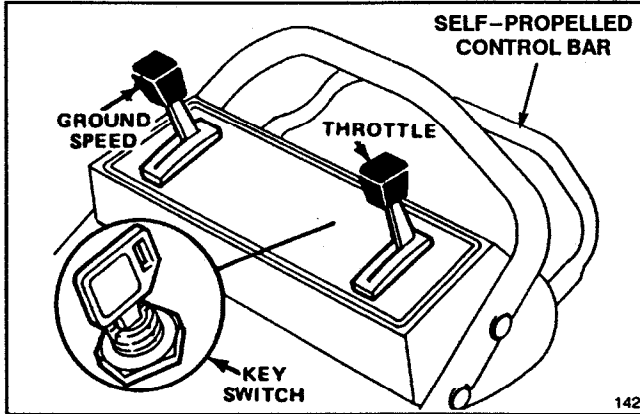
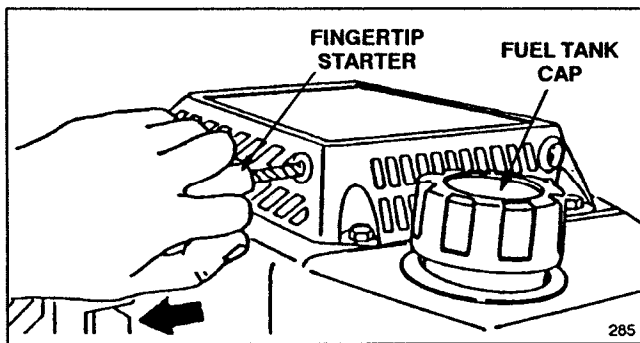

Figure 6
Figure 7
1. Clean around fuel tank cap (Fig. 7) and remove cap from tank. Do not fill tank full. Using unleaded gasoline, fill fuel tank to within 1/4" to 1/2" (6 to 13 mm) from top of tank, not into the filler neck. This space is for expansion of fuel.
1. **CONTROLS**—Key switch (electric start model only), ground speed control, throttle, and blade/self-propelled control bar are on upper handle (Fig. 6). Fingertip starter is on top of engine (Fig. 7).
- 4a. **KEY-ELECTRIC STARTING** (electric start model only)—Move throttle to **CHOKE**. Turn key to **START** and release when engine begins running. When engine starts, remove throttle from **CHOKE** and regulate engine speed between **FAST** and **SLOW**. If the battery's charge is too weak to start the engine, the engine can be started with the fingertip starter (Fig. 7).
5. **GROUND SPEED** (Fig. 6)—Move ground speed control to desired setting. Number "1" is slow, "2" is medium, and "3" is a fast walking pace. Move